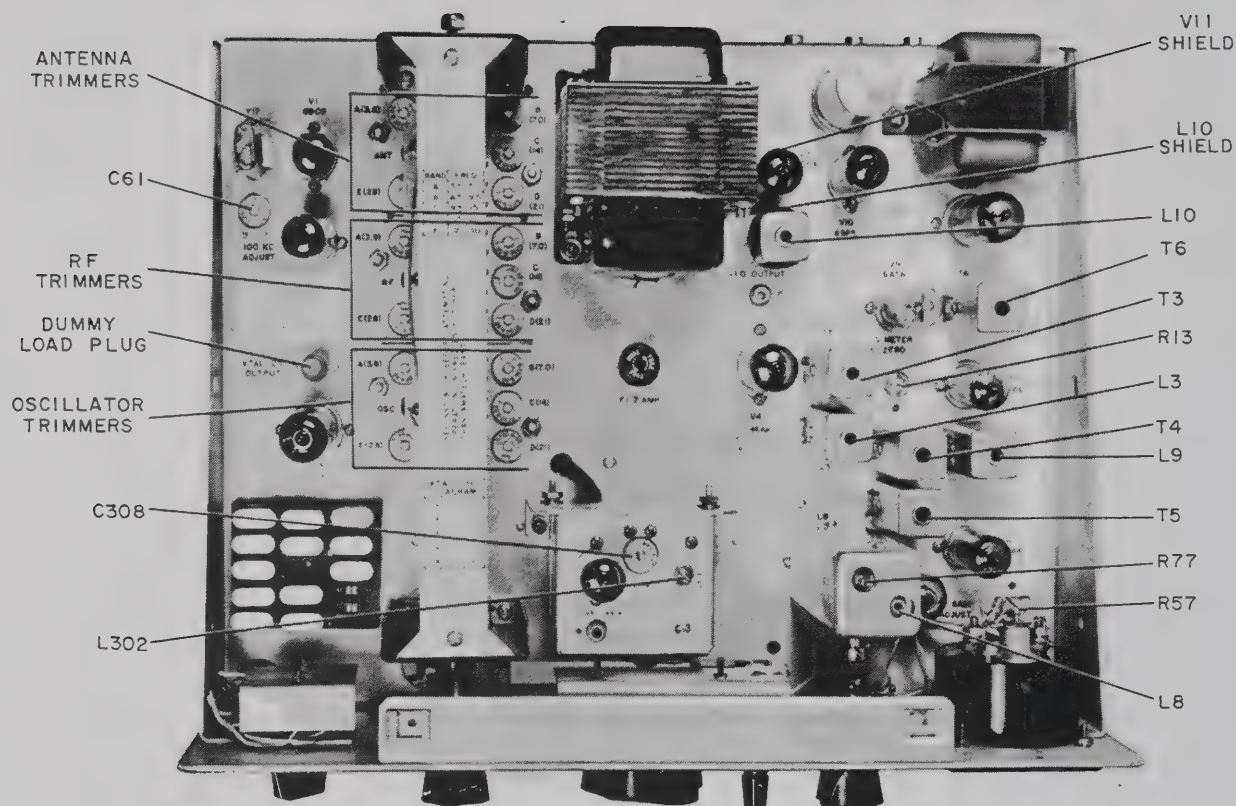

Figure 4-1. Location of Adjustments
Complete alignment of the receiver may be accomplished using the crystal calibrator as a signal source and the S-meter as a peak indicator. To provide a variable output attenuator for the calibrator, connect a .001-uf capacitor to one end of a 5000-ohm carbon potentiometer. Temporarily connect the free end of the capacitor to tube socket terminal 5 of V1, the crystal calibrator. Connect the rotating contact of the potentiometer to ground. Figure 4-1 shows the location of adjustments except for the filter input and output trimmer capacitors. These trimmers are located under the chassis adjacent to the mechanical and crystal filters. The
- b. Set both A (3.8) RF and ANT trimmer capacitors so the large notches point to approximately 2 o'clock when viewed as shown in figure 4-1. Set the A (3.8) OSC trimmer so the large notch points to the rear of the chassis.
- f. Adjust E (28) OSC, RF, and ANT trimmer capacitors for peak S-meter reading. Adjust OSC trimmer first.
- h. Adjust D (21) OSC, RF, and ANT trimmers for peak S-meter reading. Adjust OSC trimmers first.
- j. Adjust C (14) OSC trimmer for peak S-meter reading.
- l. Adjust C (14) RF and ANT trimmers for peak meter reading. Maintain S-3 signal level.